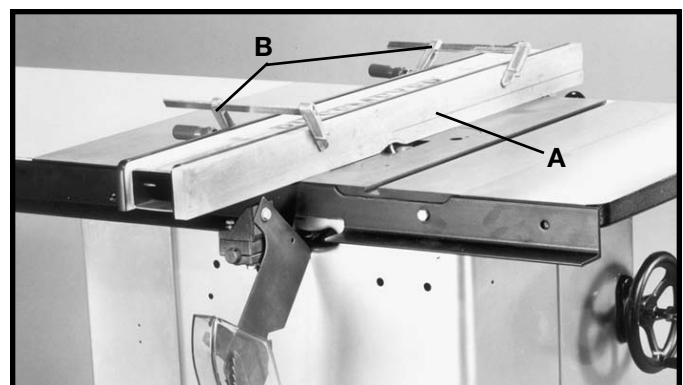

Fig. 124B
It is necessary when performing special operations such as moulding to add wood facing (A) Fig. 124B, to one or both sides of the rip fence, as shown. The wood facing is attached to the fence with two clamps (B). 3/4 inch stock is suitable for most work although an occasional job may require 1 inch facing.